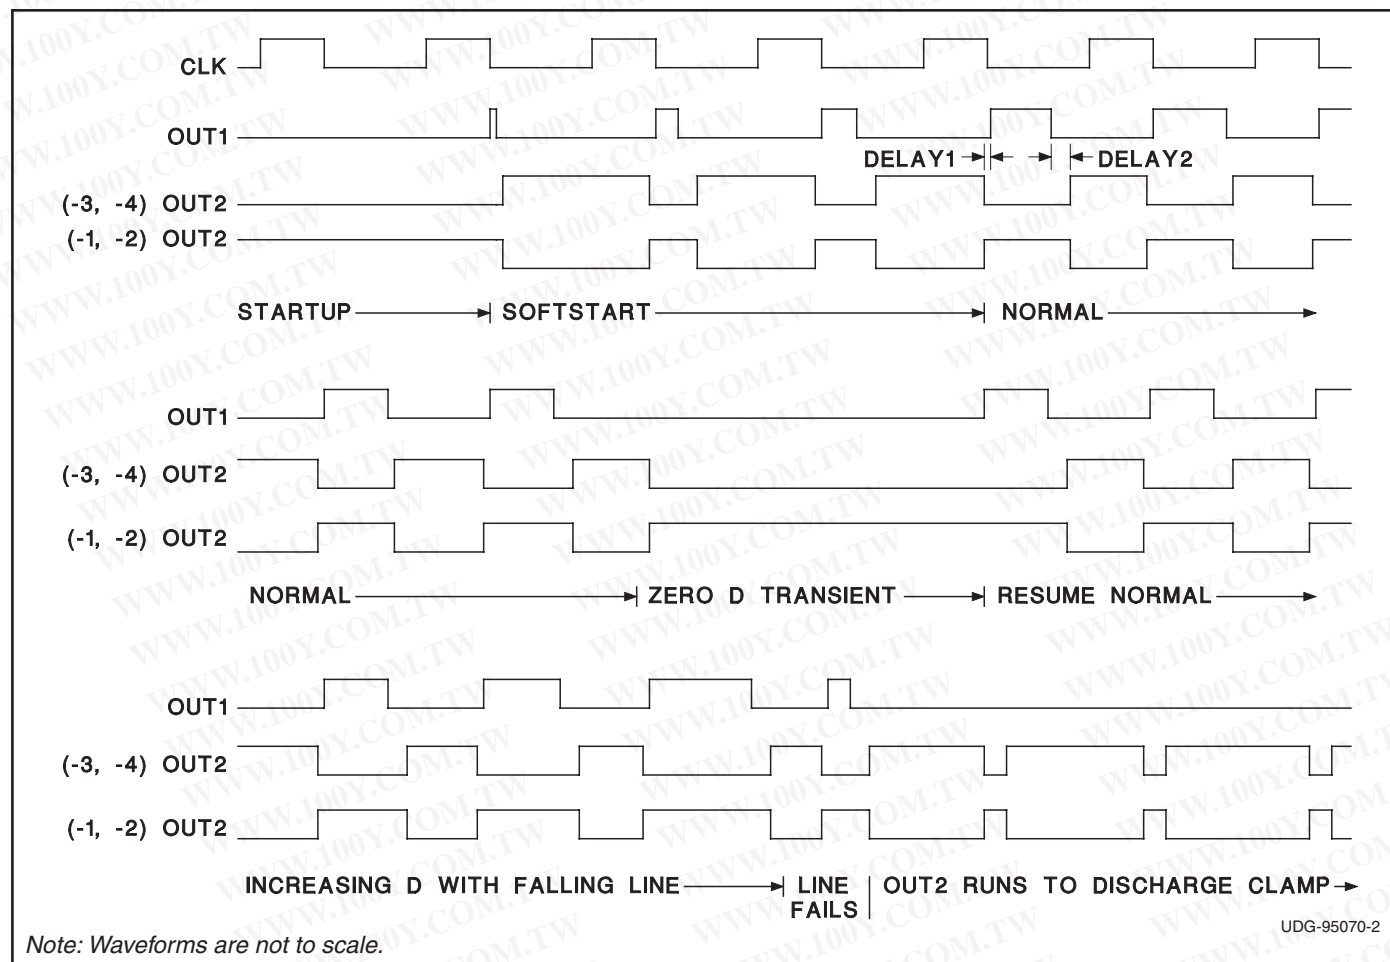
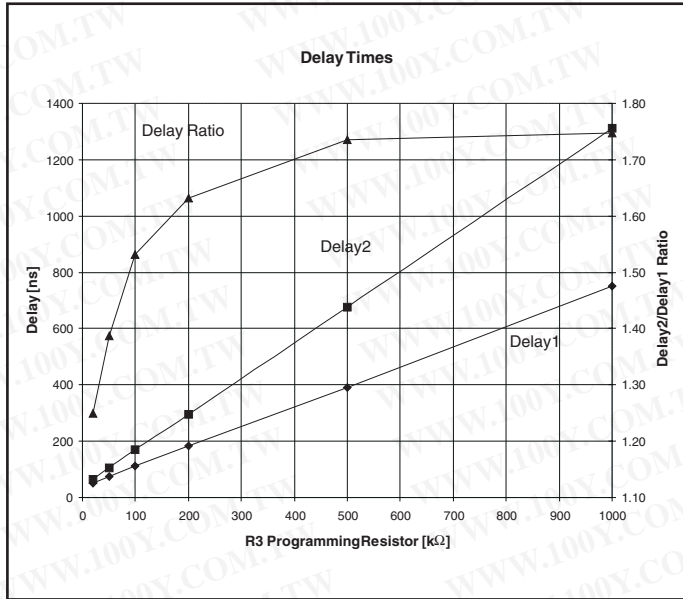

Figure 1. Output time relationships.
Figure 2. Delay times.
**DELAY:** A resistor from DELAY to GND programs the nonoverlap delay between OUT1 and OUT2. The delay times, Delay1 and Delay2, are shown in Figure 1 and are as follows:
Delay2 is designed to be larger than Delay1 by a ratio shown in Figure 2.
The soft start pin provides an effective means to start the IC in a controlled manner. An internal current of 20μA begins charging a capacitor connected to SS once the startup conditions listed above have been met. The voltage on SS effectively controls maximum duty cycle on OUT1 during the charging period. OUT2 is also controlled during this period (see Figure 1). Negation of any of the startup conditions causes SS to be immediately discharged. Internal circuitry ensures full discharge of SS (to 0.3V) before allowing charging to begin again, provided all the startup conditions are again met.
single pin is used to program the delays between OUT1 and OUT2 on both sets of edges. Figure 1 shows the relationships between the outputs. Figure 2 gives the ratio between the two delays. During the transition from main to auxiliary switch, the delay is not very critical for ZVS turn-on. For the first half of OUT1 off-time, the body diode of the auxiliary switch conducts and OUT2 can be turned on any time. The transition from auxiliary to main switch is more critical. Energy stored in the parasitic inductance(s) at the end of the OUT2 pulse is used to discharge the parasitic capacitance across the main switch during the delay time. The delay (Delay 1) should be optimally programmed at 1/4 the resonant period determined by parasitic capacitance and the resonant inductor (transformer leakage and/or magnetizing inductances, depending on the topology). However, depending on other circuit parasitics, the resonant behavior can change, and in some cases, ZVS turn-on may not be obtainable. It can be shown that the optimum delay time is independent of operating conditions for a specific circuit and should be determined specifically for each circuit.